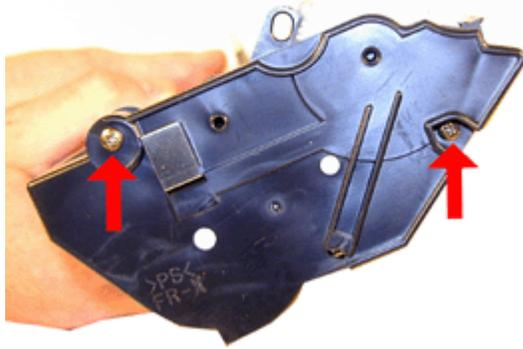

FIGURE 20
17. Remove the two screws from the right side end cap. See Figure 20.